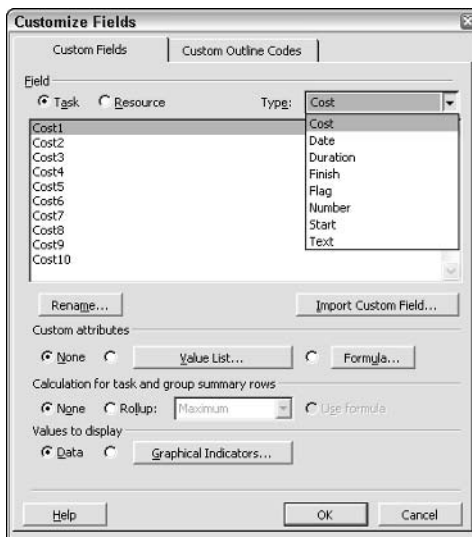

Figure 23-1: Select a custom field type.
1. Choose Tools⇨Customize⇨Fields. Project displays the Customize Fields dialog box, as shown in Figure 23-1.
1. Choose Tools⇨Customize⇨Fields. Project displays the Customize Fields dialog box, shown previously in Figure 23-1.